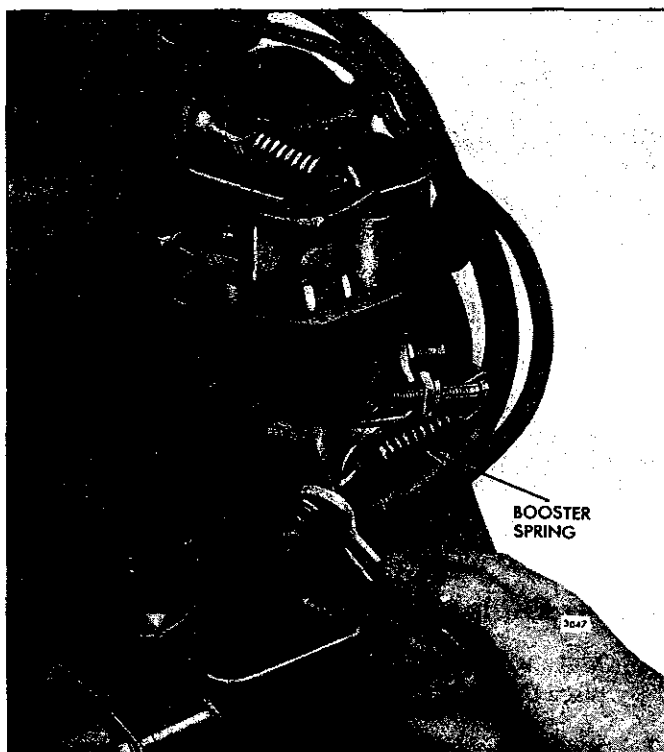

Fig. 8 - Adjusting Booster Spring
2. Reduce the tension on the booster spring, if not previously reduced, to the minimum by backing off the outer locknut (Fig. 8) until the end of the booster spring eyebolt is flush with the end of the nut.